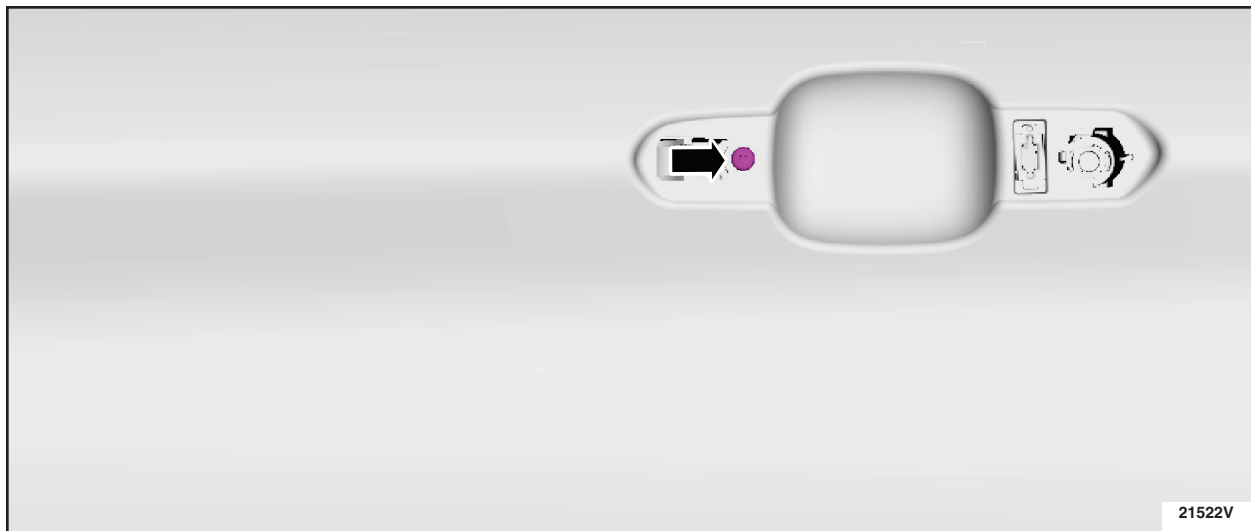

**FIGURE 12**
15. Release the door lock cylinder retaining tab and remove the door lock cylinder. See Figure 12.